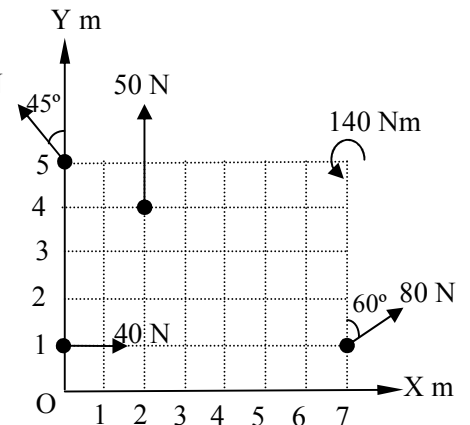

Fig. 9 Que 4(c) OR
- (c) Determine magnitude, direction and perpendicular distance from 'O', of the resultant for the force system shown in **Fig. 9**. **06**